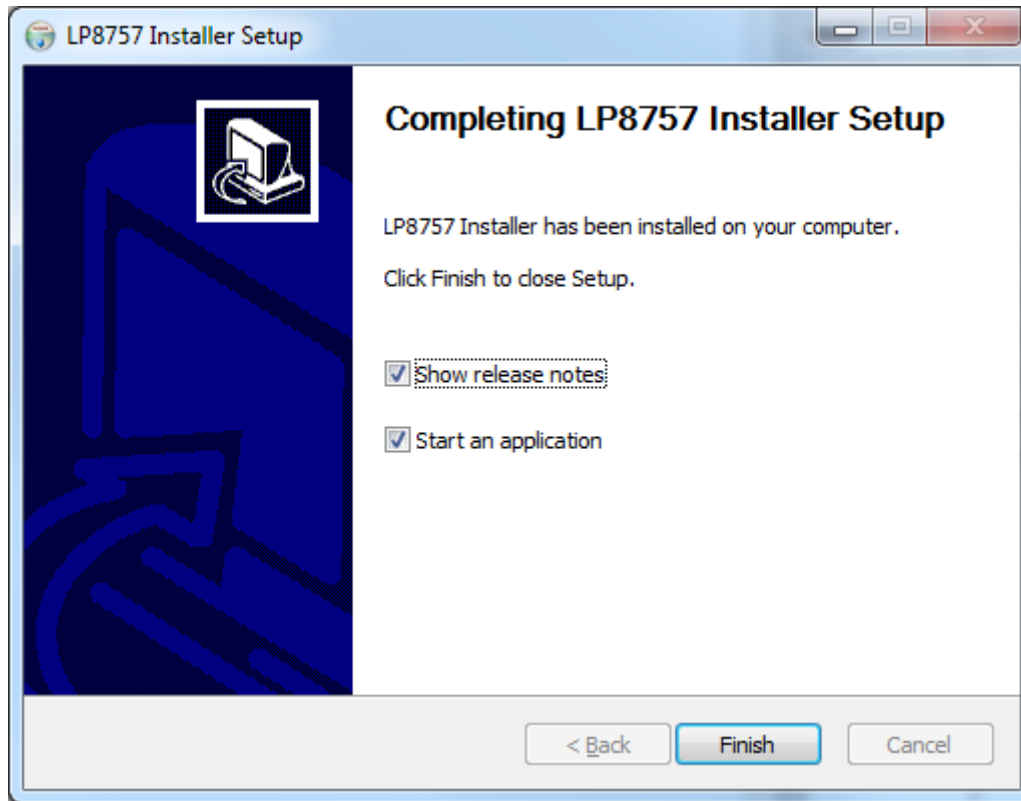

Figure 3-4. LP8757 Installation Complete
6. Installer prompts when installation is complete (see Figure 3-4).